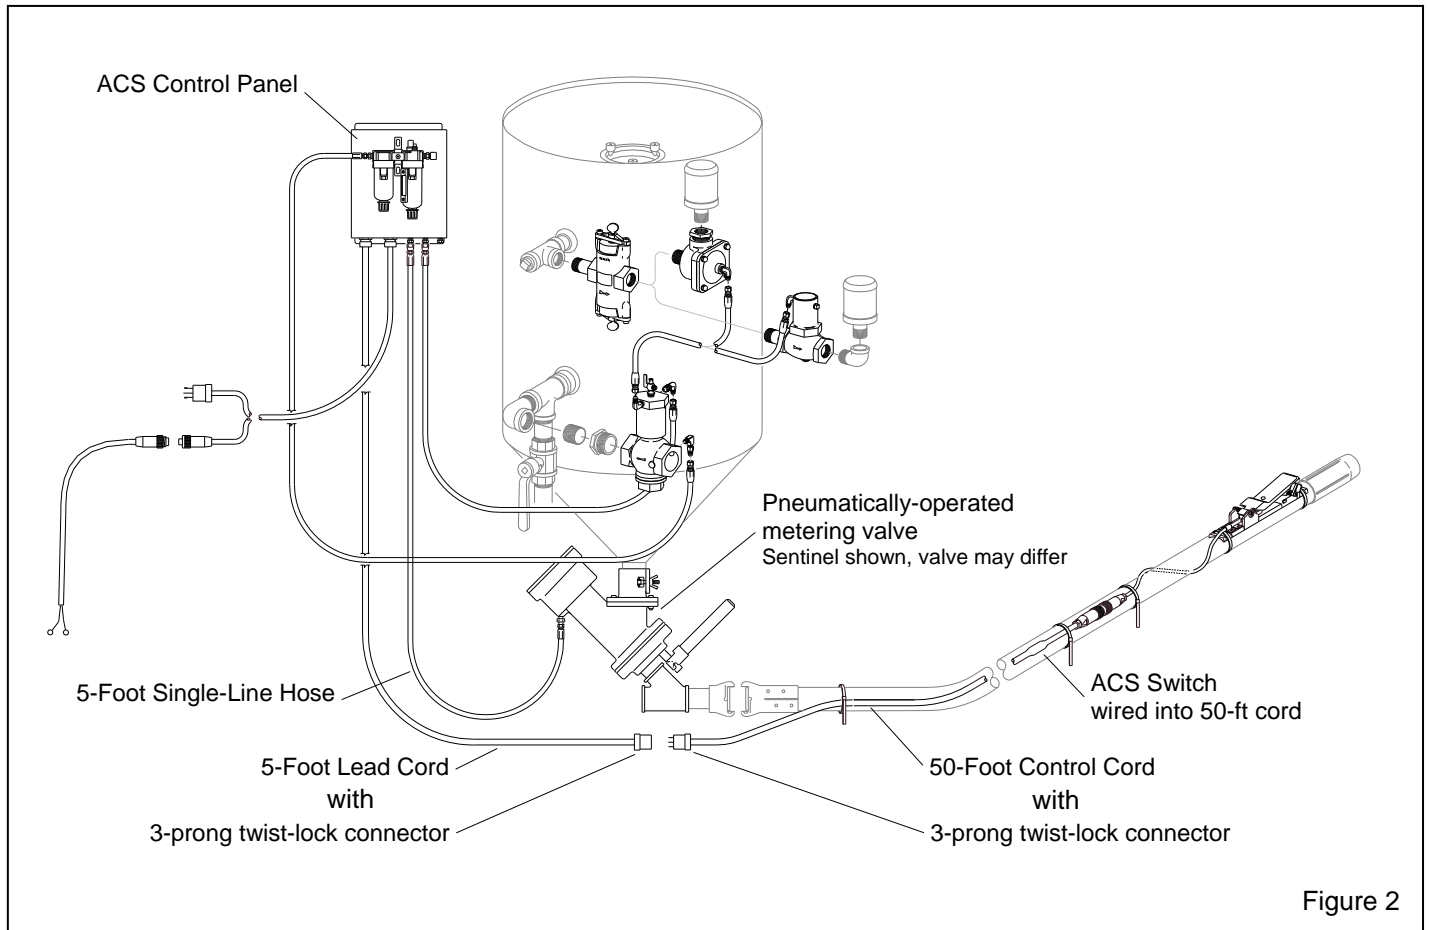

Figure 2
1.3.4 Additional and substitute parts used with the optional abrasive cut-off systems (ACS) are shown in Figure 2. ACS systems include: an ACS control panel (Note standard panels cannot be used with ACS systems) 50-ft. control cord with switch, 5-ft. long hose, and a pneumatically-operated abrasive metering valve. The metering valve supplied with the system may differ from that shown but the air connection is the same. An owner's manual for the metering valve is supplied with the valve.
2.4 Optional ACS set up Ref. Figure 2.